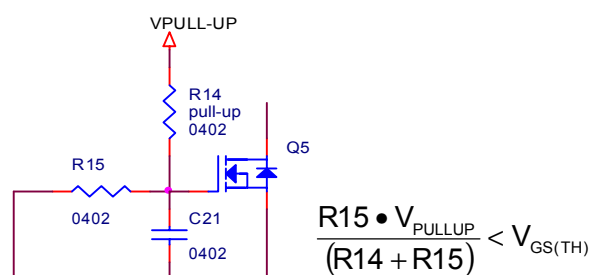

Figure 6: Ensuring Q3 Will Turn Off
1) V_{GATE} must be below the gate threshold voltage of the MOSFET in order to ensure that it can be turned off, see Figure 6 below: